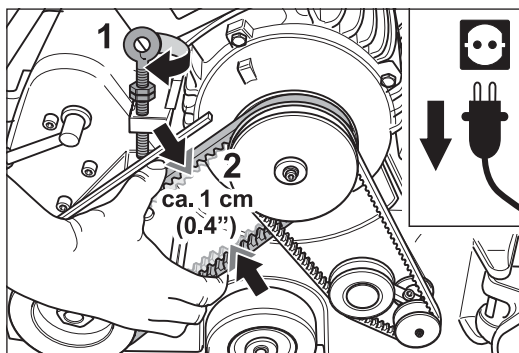

Fig. 109 Tension the drive V-belt by turning the eye bolt at the motor clockwise (1).
- 4 Tension the drive V-belt for the sanding drum by turning the eye bolt at the motor clockwise (fig. 109, 1).
The slack on the V-belt should be approx. 1 cm (0.4") if compressed with normal effort (fig. 109, 2).